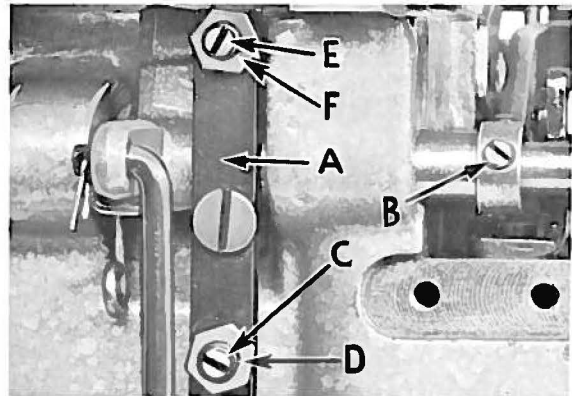

Fig. 13
Foot lifter lever arm (A, Fig. 13) and collar (B) secure the shaft. Be sure presser arm does not bind and rise when presser foot release bushing is unlocked. To center presser foot and stitch tongue with respect to throat plate needle hole, loosen presser foot hinge screw.